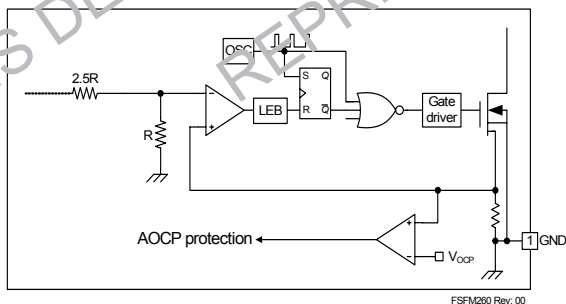

Figure 21. Abnormal Over-Current Protection
3.4 Abnormal Over-Current Protection (AOCP): When the secondary rectifier diodes or the transformer primary are shorted, a steep current with extremely high di/dt flows through the SenseFET during the LDT time. Even though the FPS has overload protection, it is not enough to protect the FPS in these abnormal cases, since severe current stress is imposed on the SenseFET until OLP triggers. The IC has an internal AOCP circuit shown in Figure 21. When the gate turn-on signal is applied to the power senseFET, the AOCP block is enabled and monitors the current through the sensing resistor. The voltage across the resistor is compared with a preset AOCP level. If the sensing resistor voltage is greater than the AOCP level, the set signal is applied to the latch, resulting in the shutdown of the SMPS.